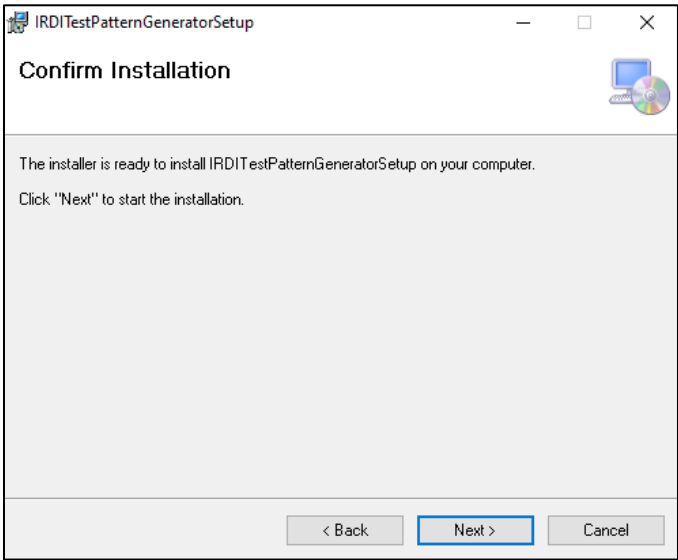

FIGURE 5-7 CONFIRMING INSTALLATION
STEP 4	Confirm the installation process by clicking the "Next" button - see Figure 5-7. (To cancel the installation, click on the "Cancel" button.)